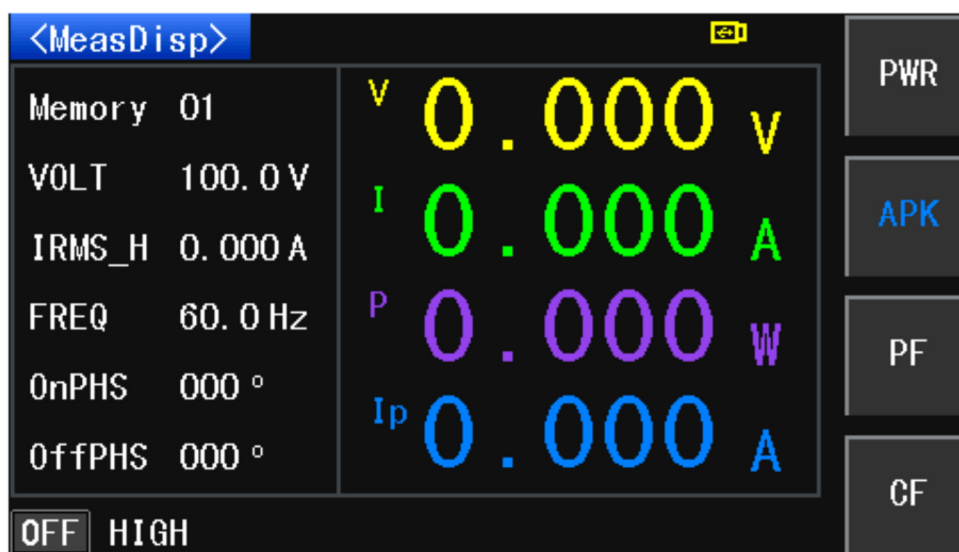

Figure 3-5 MESA4 Key
This soft-key is used to configure the parameters required for MESA4, press this soft-key to select the power (PWR), peak current (APK), power factor (PF), crest factor (CF). Please refer to figure 3-5.